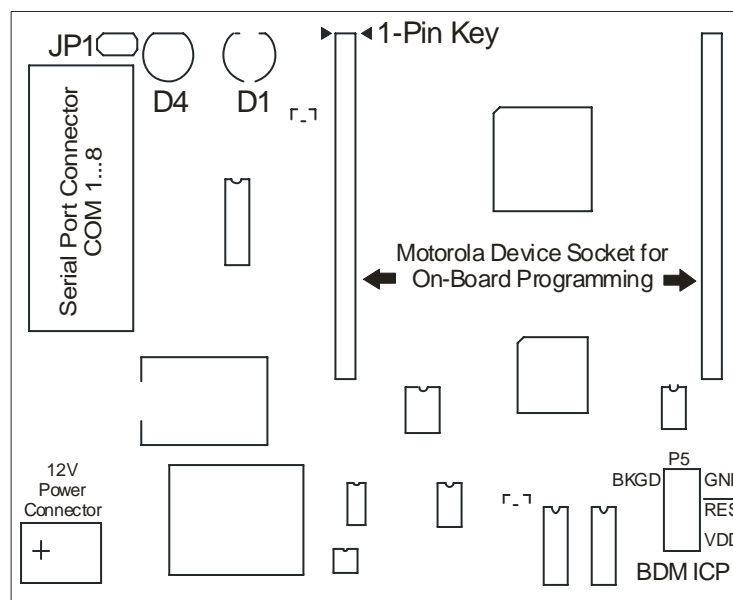

Figure 1. The HC912-Programmer board layout
The HC912-Programmer includes two LED's and mode jumper (Figure 1). Color LED's indicates programmer state and external power supply voltage (Table 1, 2).
- Insert jumper JP1 (see Figure 1).
- Remove JP1 (see Figure 1).
Note: When using In-Circuit programming interface remove adaptor from Motorola device socket (see Figure 1).
Note: When On-board programming interface used, remove cable from BDM ICP connector (see Figure 1).
- Remove any adaptor from Motorola device socket (see Figure 1).
- Insert adaptor to Motorola Device Socket on HC912-Programmer in according to 1 pin-key (see Figure 1).
- Remove cable from BDM ICP connector (see Figure 1).